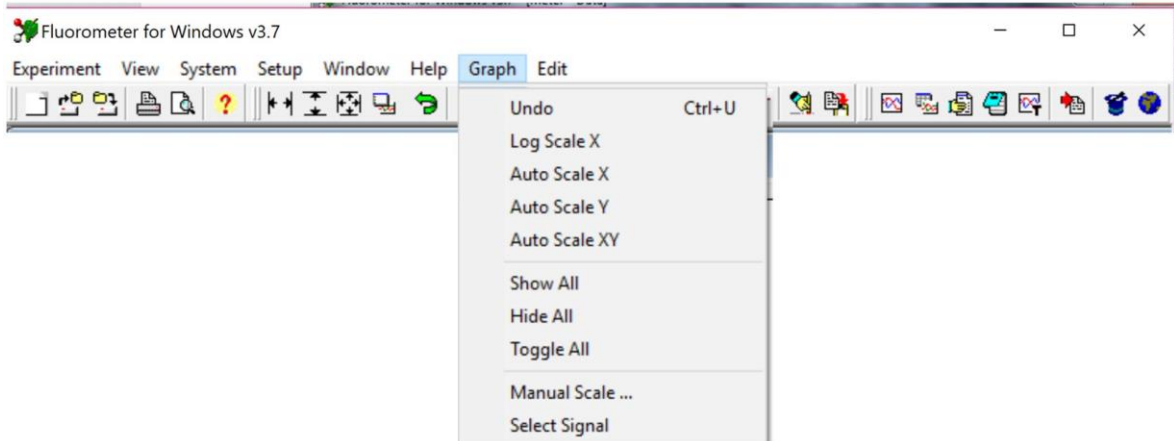

Fig. 38 Graph menu.
- The graphic presentation can be adjusted by **Graph menu** on the upper bar (Fig. 38).